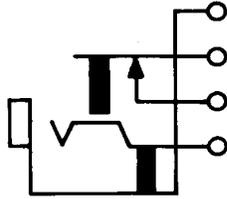

Fig. 14—237-Type Jack
2.14 237A, C, AM, and CM: These single-mounted jacks (Fig. 14) are used with 1D, 1E, 153, 209, 241, 305, 327, 328, 347, 373, and 464 plugs. These are heavily insulated jacks. These jacks are mounted with the springs in a vertical plane.